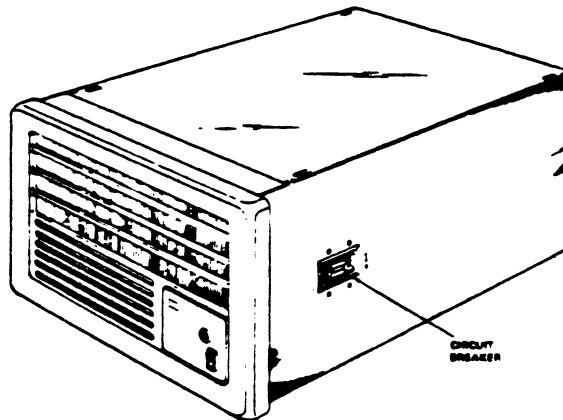

FIGURE 2-32 CIRCUIT BREAKER LOCATION
7. Turn the box circuit breaker off. See Figure 2-32.